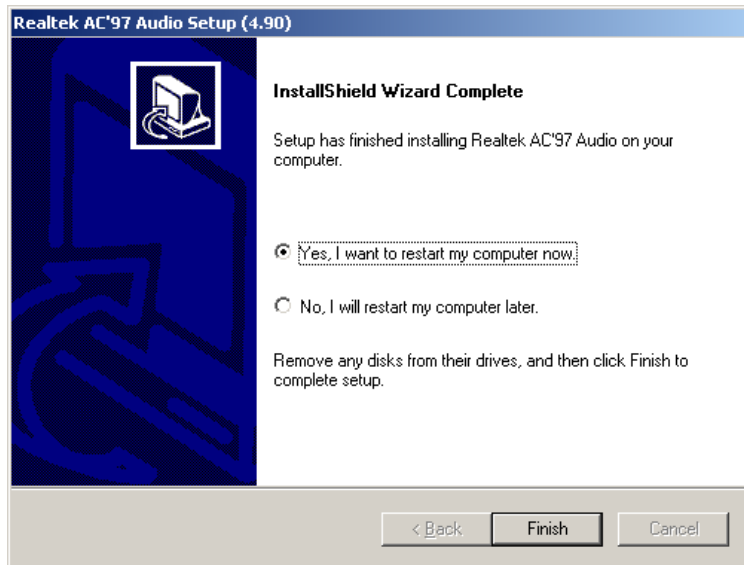

Figure 7-32: Restart the Computer
Step 11: After the driver installation process is complete, a confirmation screen appears (Figure 7-32).